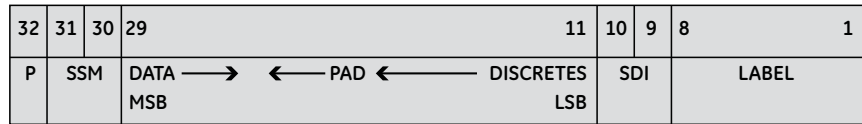

Figure 1-4 General ARINC Word Format
1.7 ARINC-429 Word Format Each ARINC-429 word is a 32-bit value containing 5 fields, as shown in **Figure 1-4** and described in **Table 1-3**.